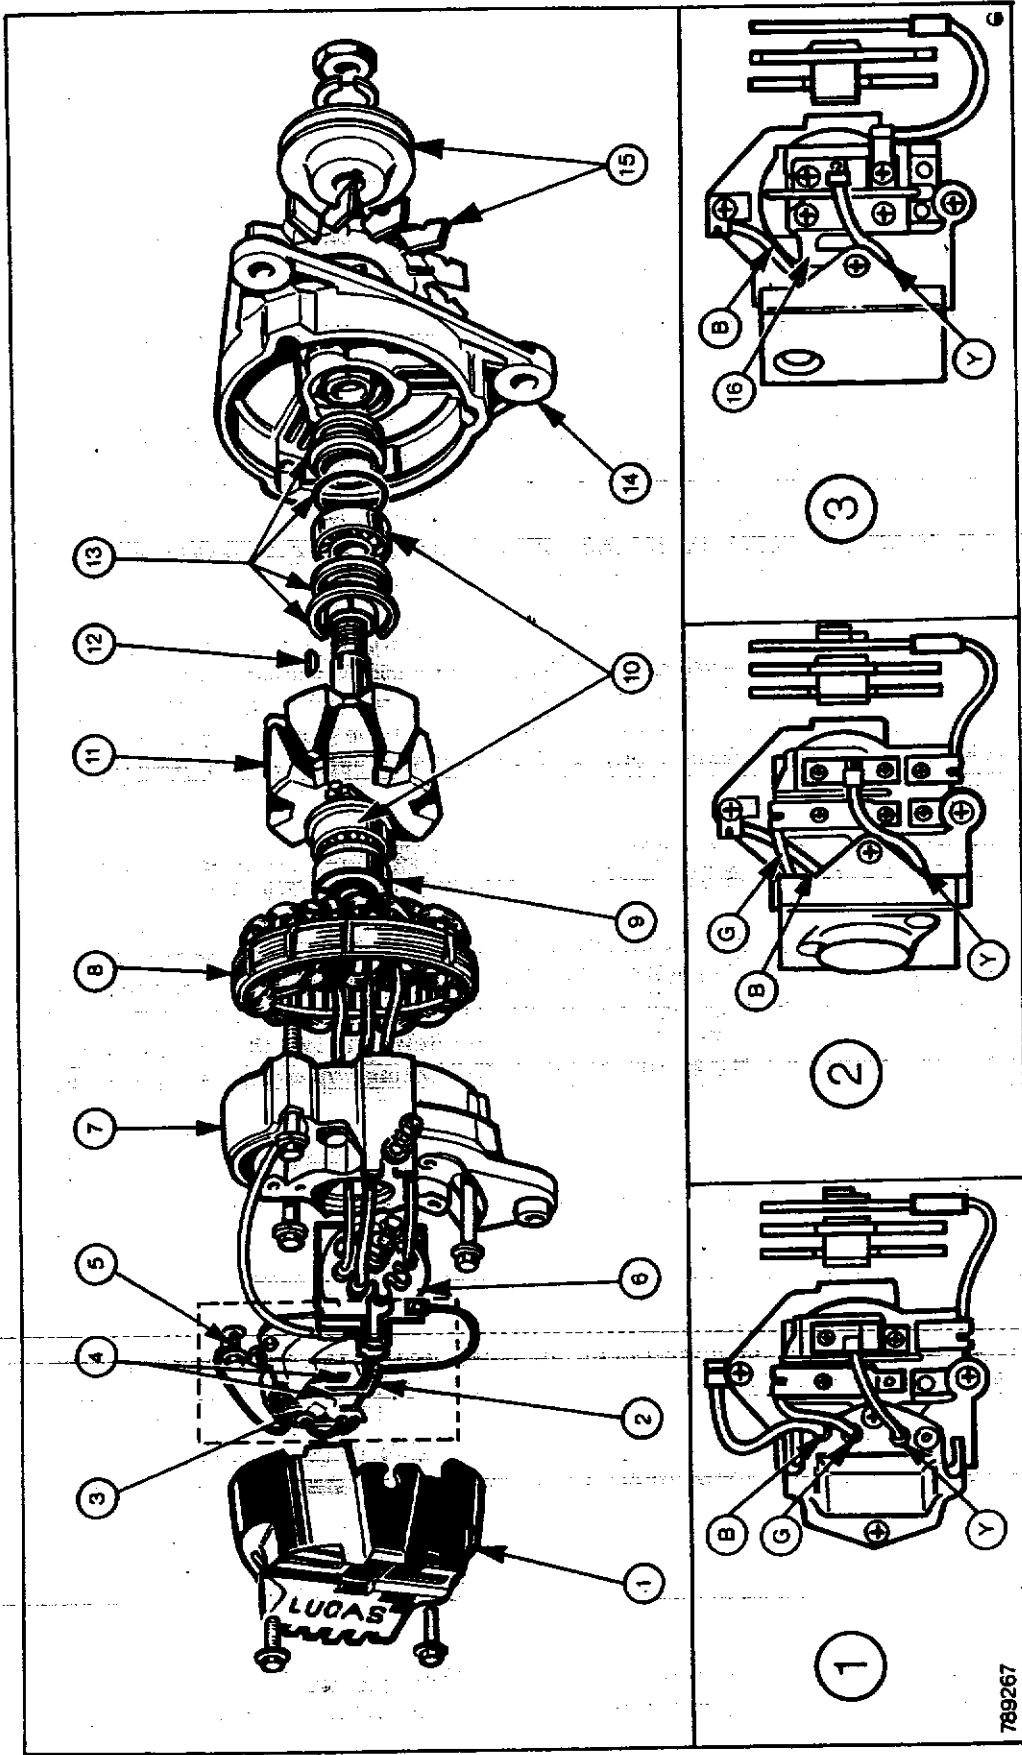

Fig. 35 - Machine-sensing system, 17ACR alternator
- (i) 8TR or 11TR 4-lead regulator (see Fig. 35).
- (ii) 8TR or 11TR 3-lead regulator (see Fig. 35).
- (iii) 14TR 2-lead regulator (see Fig. 35).